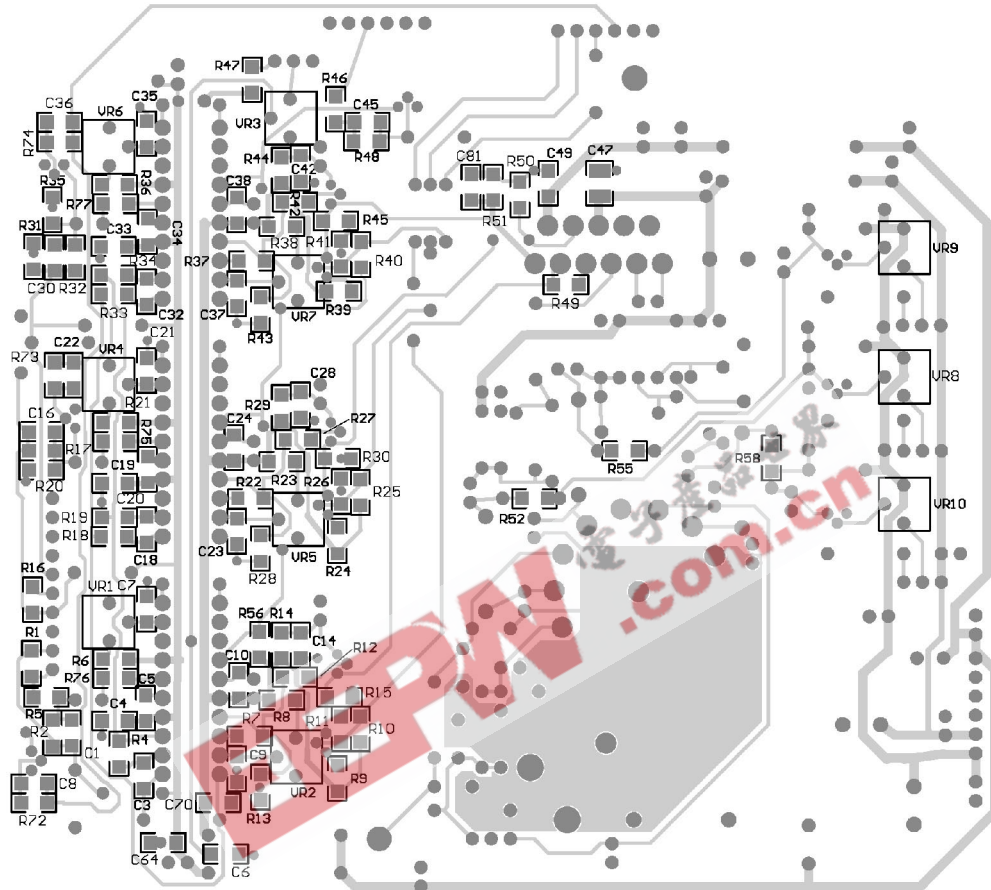

FIGURE 12. PCB Bottom Layer
- C47 - V_{CC} bypass capacitor, located very close to pin 6 and ground pins. (*Figure 12*)
- C49 - V_{BB} bypass capacitor, located close to pin 10 and ground. (*Figure 12*)